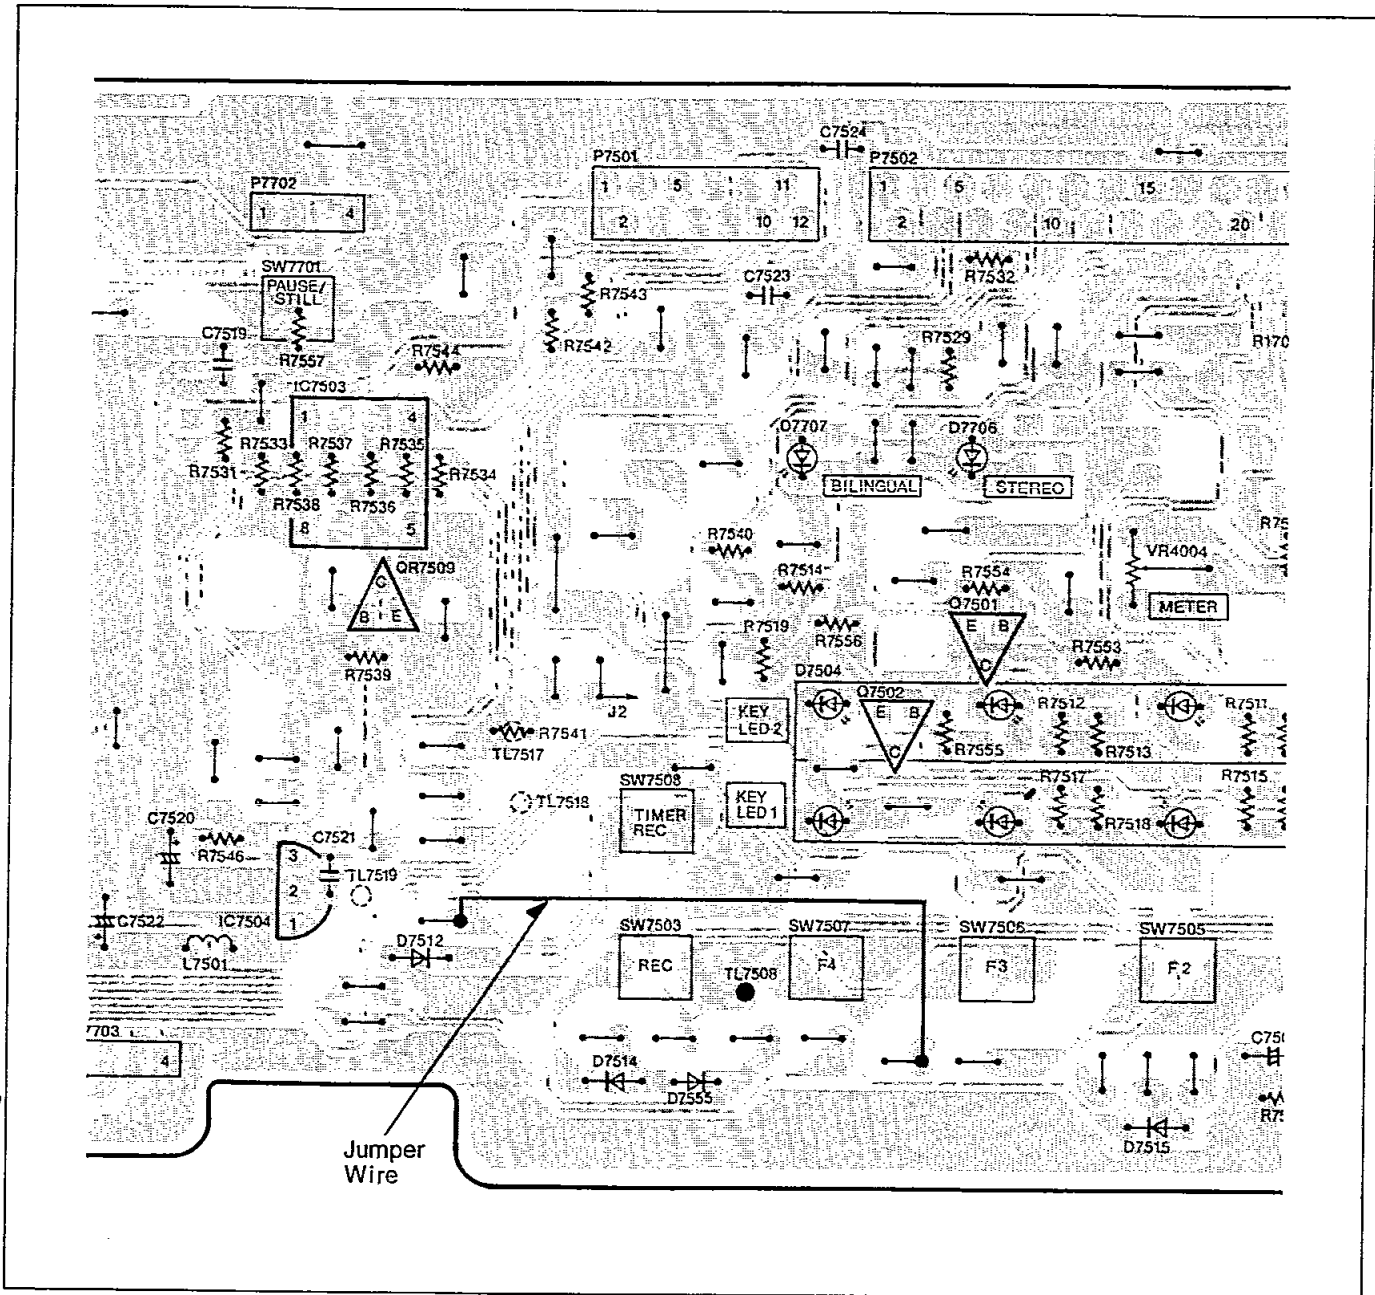

Fig. S3
- 2) Momentarily make a short circuit as shown in Fig.S3.